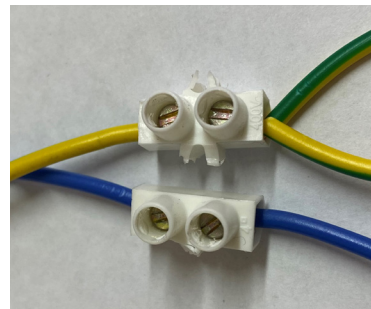

fig.4
- 6** Earth wiring: Connect inside switch case Earth wire Power (green/yellow) to Earth wire Motor (green/yellow) and Earth wire Case (green/yellow) (**fig.4**).
- 7** Neutra Wiring (No safety brake) - connect inside switch case neutral wire power (blue) to neutral wire motor (blue) (**fig.4**).
- 7** **Neutral Wiring (No safety brake)** - connect inside switch case neutral wire power (blue) to neutral wire motor (blue) (**fig.4**).